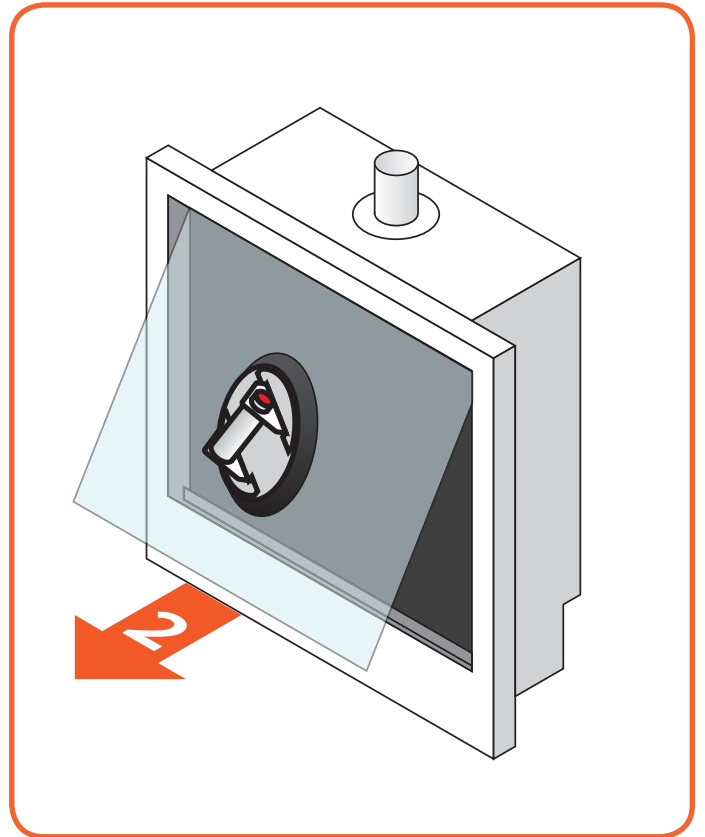

Figure 10.6 - Remove window by tilting
- Lift the glass out of the lower glass rail and tilt it out through the opening, as seen in **Figure 10.6**.